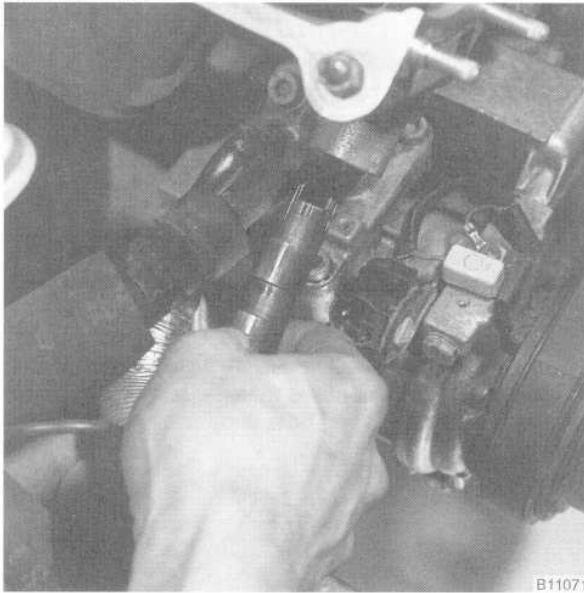

Fig. 31. Primary chain tensioner being installed on 1991 and 1992 cars. Piston cutout must be in position shown to engage chain rail.
14. On 1991 and 1992 cars, install the primary chain tensioner so that the cutout in the tensioner piston engages the chain rail as shown in Fig. 31.
23. On 1993 and later cars, remove BMW special tool 11 3 390 (dummy chain tensioner) from the side of the cylinder head. Install the primary chain tensioner so that the cutout in the tensioner piston engages the chain rail as shown earlier in Fig. 31. Using new seals, install and tighten the access plugs in the VANOS control unit.